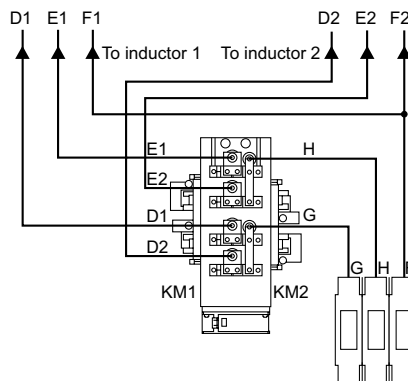

Fig. 17
- double-step line disconnection (Fig. 17).